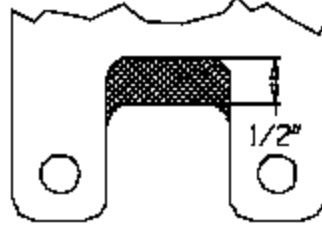

Figure 1 - Throttle Bracket Modification
- THROTTLE BRACKETS: Due to the design of Performer manifolds, the throttle and kickdown bracket on some vehicles may require modification to fit. See figure 1 for guidelines or purchase our #8031, 8030 or 8036 throttle, cruise, and kickdown linkage brackets